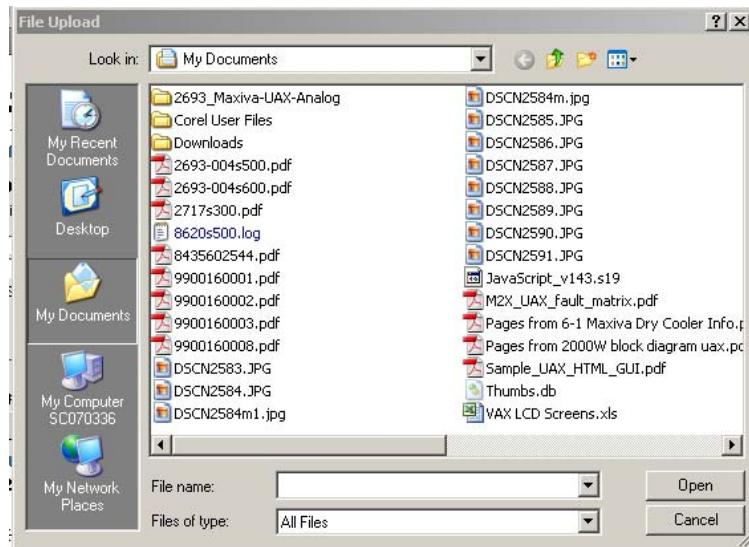

Figure 5-15 File Upload Window
STEP 6 Press the Browse soft button to the right of the file to upload box on the In-System Programming screen. This will bring up the File Upload sub window, shown in Figure 5-15.